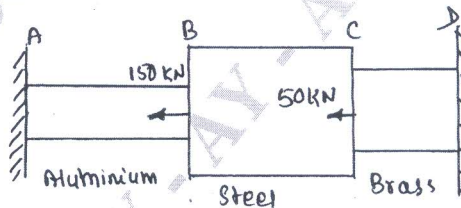

Fig.Q1(b)
- Calculate the stress in each material if the composite rod is subjected to axial force as shown in Fig.Q1(b).